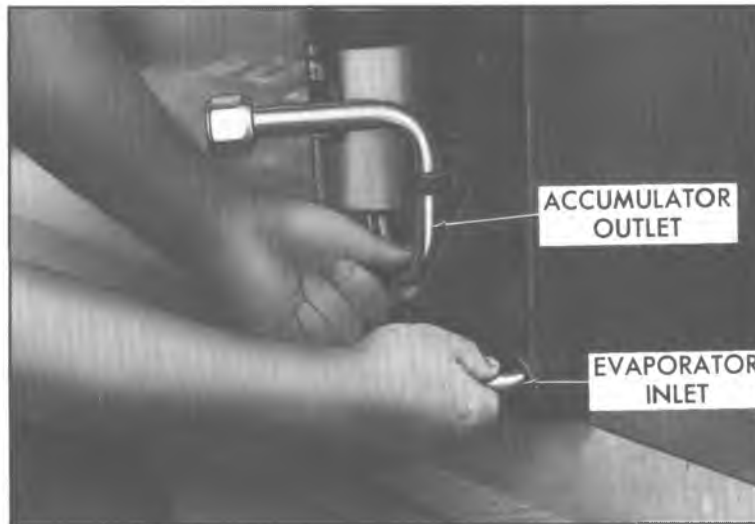

Fig. 52--Checking Evaporator Inlet and Accumulator Outlet Temperatures
7. Feel temperature of evaporator inlet and accumulator outlet pipes with compressor engaged (fig. 52).